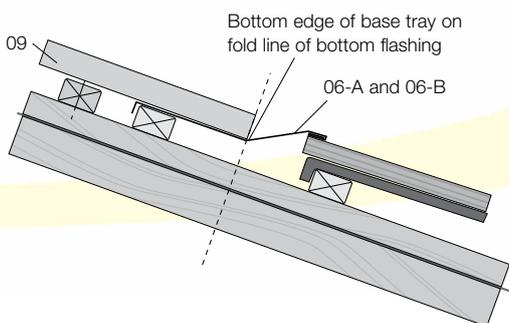

Figure 56c: Section Through Bottom Flashing
- Fit first lower base tray (10-A). Position side of tray at distance 'C' from end of bottom flashing, with lower edge along the fold line of the bottom flashing – see figure 56c. Note: For slates Align the lower edge of the trays with the pencil line previously marked across the full width of the bottom flashing.
5. Fit first right hand (RH) half base tray (10-B) with upwards facing return fold towards centre. Position side of RH half base tray at distance 'C' from end of bottom flashing with lower edge along the fold line of the bottom flashing – see figure 56c.